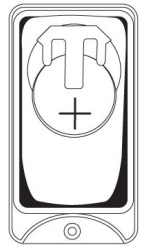

Figure 2
Refer to your control panel documentation to initiate panel test mode, then test the key fob by pressing the key fob buttons (see *Figure 2*):
**WARNING! The polarity of the battery must be observed, as shown (see *Figure 2*). Improper handling of lithium batteries may result in heat generation, explosion or fire, which may lead to personal injuries. Replace only with the same or equivalent type of battery as recommended by the manufacturer. (see *Specifications*)**